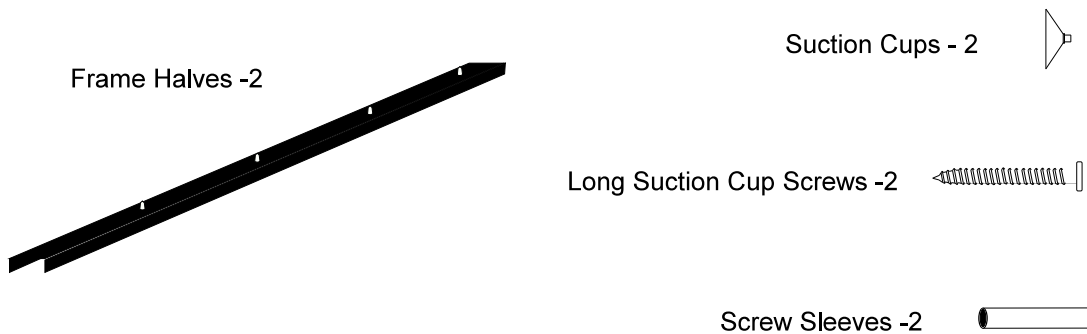

Figure 1
1. Package Contents - Each Mid-screen Frame should include the following: (Figure 1)